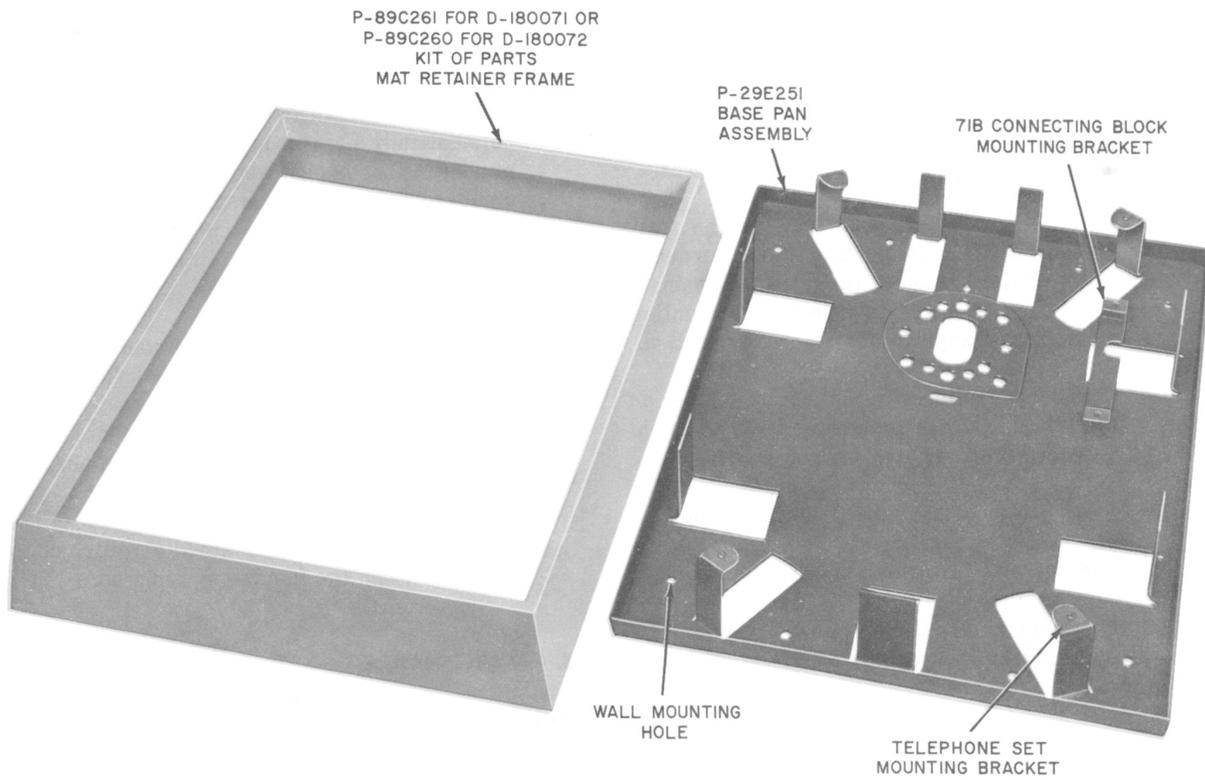

Fig. 2—D-180071 or D-180072 Kit of Parts
- (1) Remove cover of apparatus box, if so equipped (see section covering apparatus boxes).
- (2) Install 71B connecting block (ordered separately) to terminal strip mounting brackets provided on upper-right side of apparatus box.
- (3) Terminate spade-tipped end of D12E mounting cord and conductors of inside wire or cable to connecting block in accordance with connection section for each particular set.
- (4) Remove plastic retainer frame and mat from telephone set.
- (5) Position telephone set mounting panel on lower edge of apparatus box with top tilted outward. Connect the mounting cord plug to the connector on set panel and dress slack cord in back of apparatus box.
- (6) Carefully align set panel with mounting brackets on apparatus box and secure with four screws furnished.
- (7) Place mat on face of panel. Align plastic retainer frame with projecting tabs of panel and snap frame into place. If necessary bend tabs to assure snug fit.
**D-180071 or D-180072 Kit of Parts (Fig. 2)**